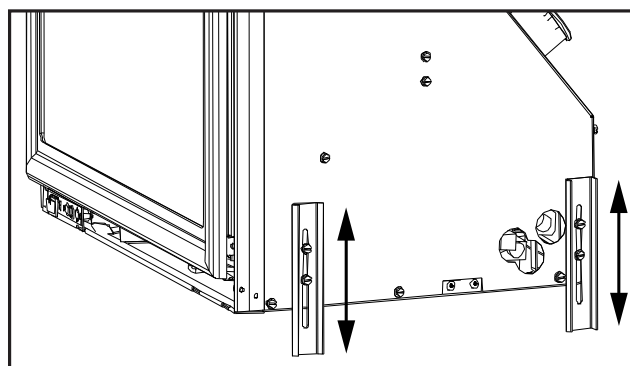

Figure 31: Levelling legs position.
5. If the fireplace opening is lower than 19" (483mm), remove the vent collar plate from the top of the insert by unscrewing the two (2) T-20 Torx screws located on the center top of the stove. Slide the collar plate backwards. Properly secure the vent collar plate to the flexible vent pipe liner(s) previously installed in the chimney. Be careful not to over-stretch the liner(s).
8. Using a 1/4" hex driver, adjust the levelling legs to ensure the unit is level and high enough if a base shelf and/or riser is to be installed. There are two (2) levelling legs on each side (shown in Figure 31).